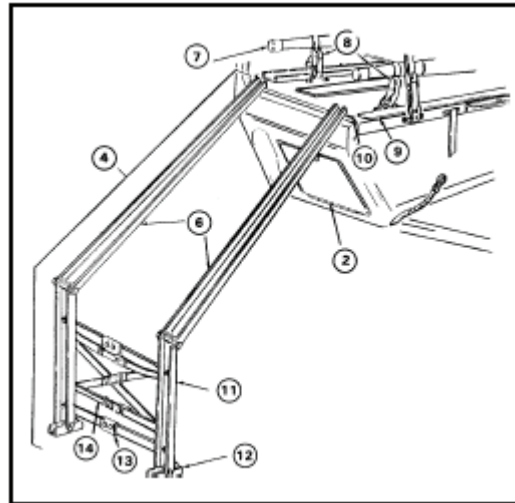

Figure 3-54. Fold and stow litter rail extension
- (6) Slide litter rack handle (17) into upper litter rack (21).
- (7) Secure rails of litter rail extension (4) into slots in upper litter rack (21).
- (8) Release rear litter handle straps (20) from litter handles (19).
- (9) Slide litter (18) down litter rail extension (4) until litter (18) is clear of upper litter rack (21).
- (10) Lift and remove litter (18) from litter rail extension (4).
- (11) Remove litter rail extension (4) from upper litter rack (21).
- e. Fold and stow litter rail extension. Refer to Figures 3-54 and 3-55.